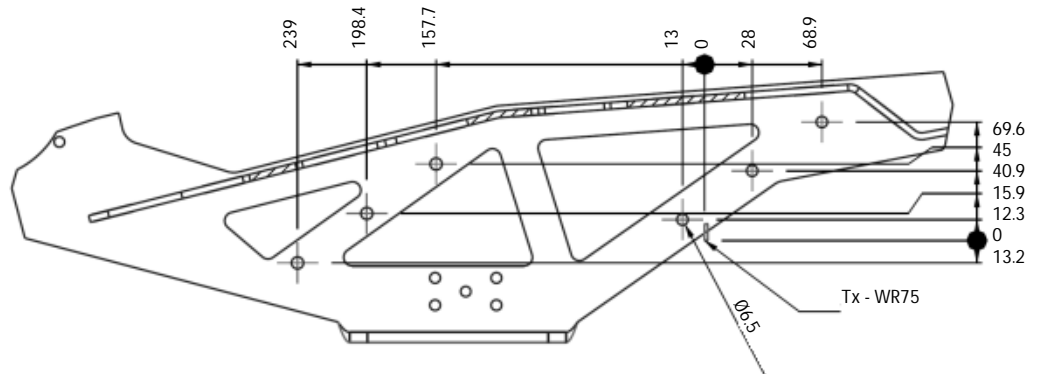
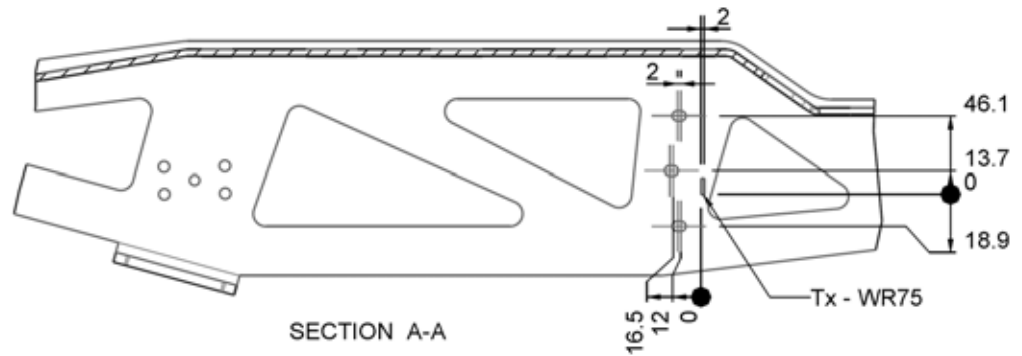

Figure 7-10: Waveguide position and mounting holes for BUC brackets (EXPLORER 8100)
Figure 7-13: Waveguide position and mounting holes for BUC brackets (EXPLORER 8120)
**CAUTION!** Install the front bracket with interface to the Waveguide according to the specifications in Figure 7-10 (EXPLORER 8100) or Figure 7-13 (EXPLORER 8120). This is important in order to accommodate free movement of the Waveguide below the Feed boom.
For the rear bracket, the Feed boom has a number of mounting holes for flexible installation of various BUC types. See Figure 7-10 (EXPLORER 8100) or Figure 7-13 (EXPLORER 8120).